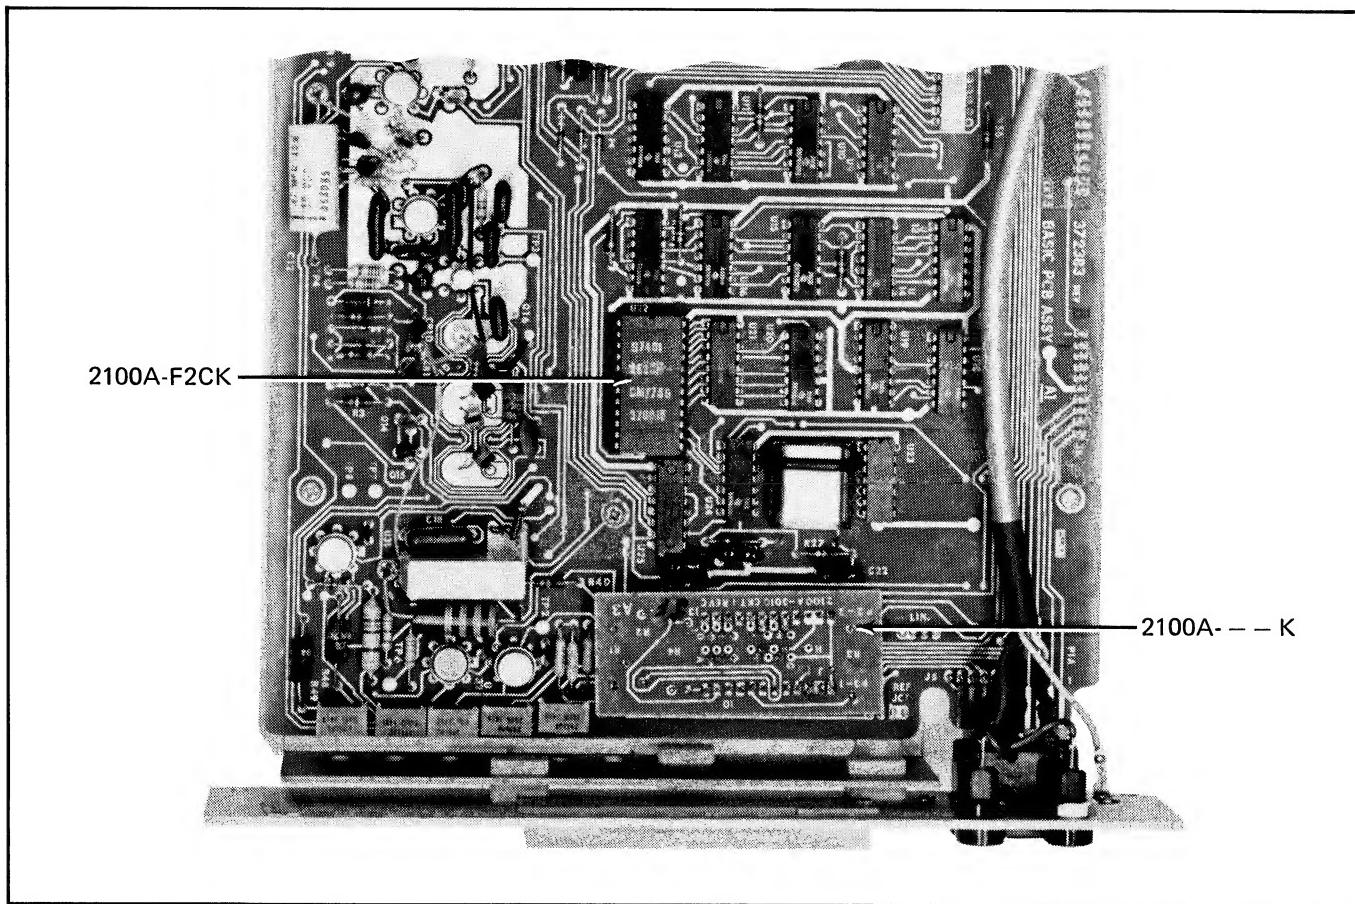

Figure 6-5. 2100A---K AND F2CK LOCATION
- d. Locate and remove the old thermocouple type PCB (see Figure 6-5). Use both hands, one at each end of the type pcb, to pull the pcb straight up from the Basic PCB Assembly.
- e. Position the new type pcb as indicated in Figure 6-5, i.e., upside down as viewed from the rear of the instrument.
- c. Align the new ROM as shown in Figure 6-5 and press it into place in the IC socket; pin number one should be at the upper left of the ROM as viewed from the rear of the instrument.